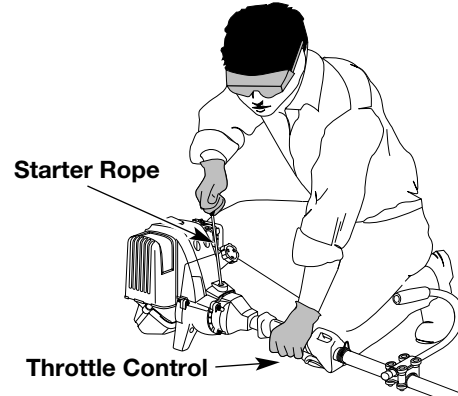

Fig. 10
7. With the unit in the starting position (Fig. 10) pull the starter rope briskly 5 times in the **FULL choke (A) |←|** position. If the engine attempts to run before the fifth pull, proceed to step 8.
5. With the unit in the starting position (Fig. 10), pull the starter rope briskly until the engine starts.
6. When the engine starts, move the choke lever to the **RUN (C) |↑|** position, and run at full throttle for 30 seconds.
1. Release your hand from the throttle control (Fig. 10). Allow the engine to idle.